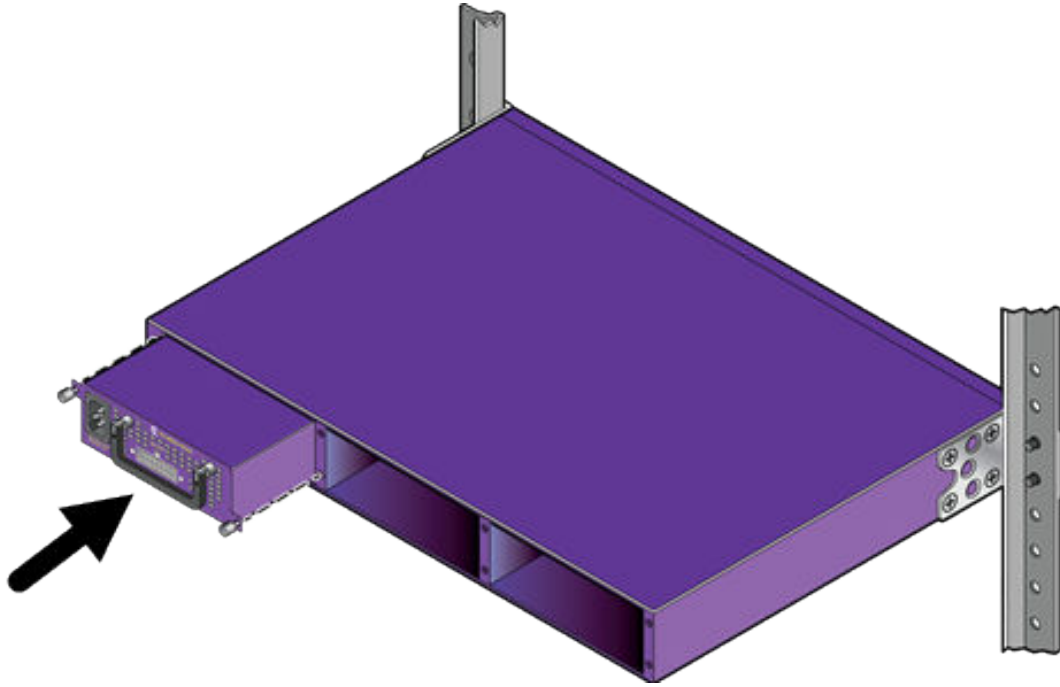

Figure 346: Inserting a VX-RPS-1000 Power Supply into the Shelf
3. Slide a power supply into an empty bay in the shelf, as shown in Figure 346.